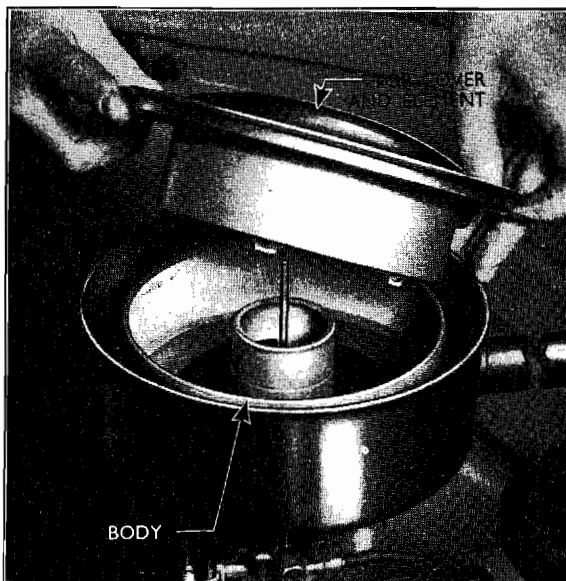

Fig. 1
3. Drain the oil from the filter bowl, clean out and refill to the level indicated by the arrow (see Fig. 1) with clean engine oil.